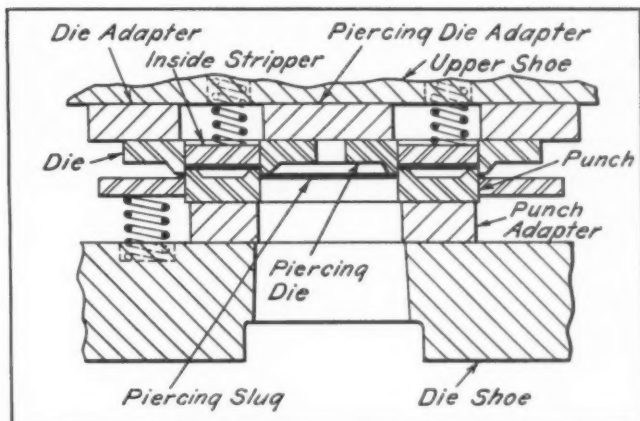

Fig. 11. Sections of Die Mounted on an Adapter
3. If the hole to be pierced is too large for the use of a punch made of one piece of steel, the required number of sections is usually mounted on an adapter, as indicated in Fig. 11.